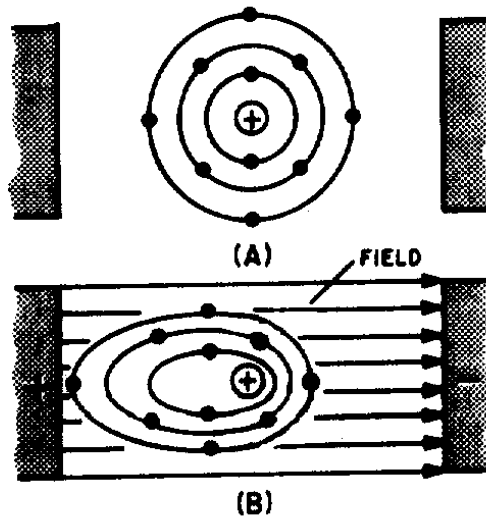

Figure 3-3.—Distortion of electron orbital paths due to electrostatic force.
If two unlike charges are placed on opposite sides of an atom whose outermost electrons cannot escape their orbits, the orbits of the electrons are distorted as shown in figure 3-3. Figure 3-3(A) shows the normal orbit. Part (B) of the figure shows the same orbit in the presence of charged particles. Since the electron is a negative charge, the positive charge attracts the electrons, pulling the electrons closer to the positive charge. The negative charge repels the electrons, pushing them further from the negative charge. It is this ability of an electrostatic field to attract and to repel charges that allows the capacitor to store energy.